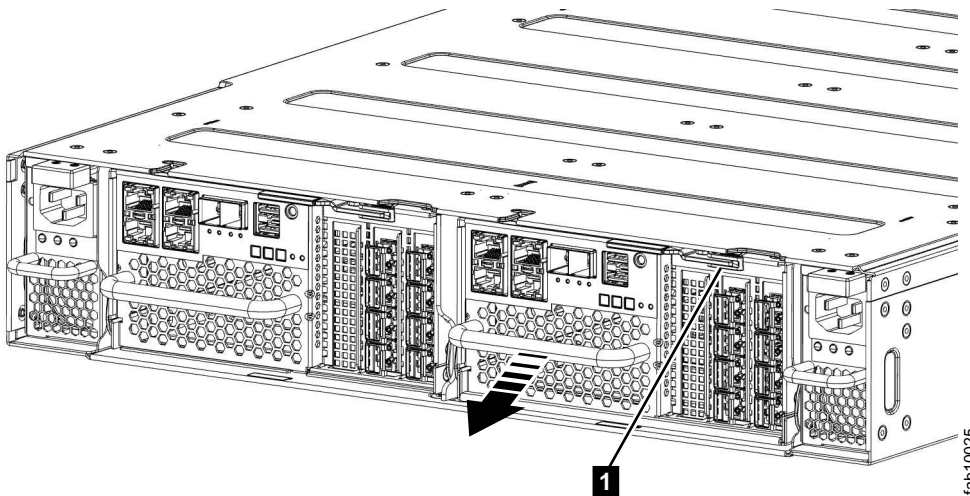

Figure 39. Removing a node canister
6. On the canister, unlatch the release lever and pull it open (see Figure 39). The canister moves out of the slot approximately 0.6 cm (0.25 inch). Be careful that you do not inadvertently disturb or remove any cables that are connected to other components of the system.